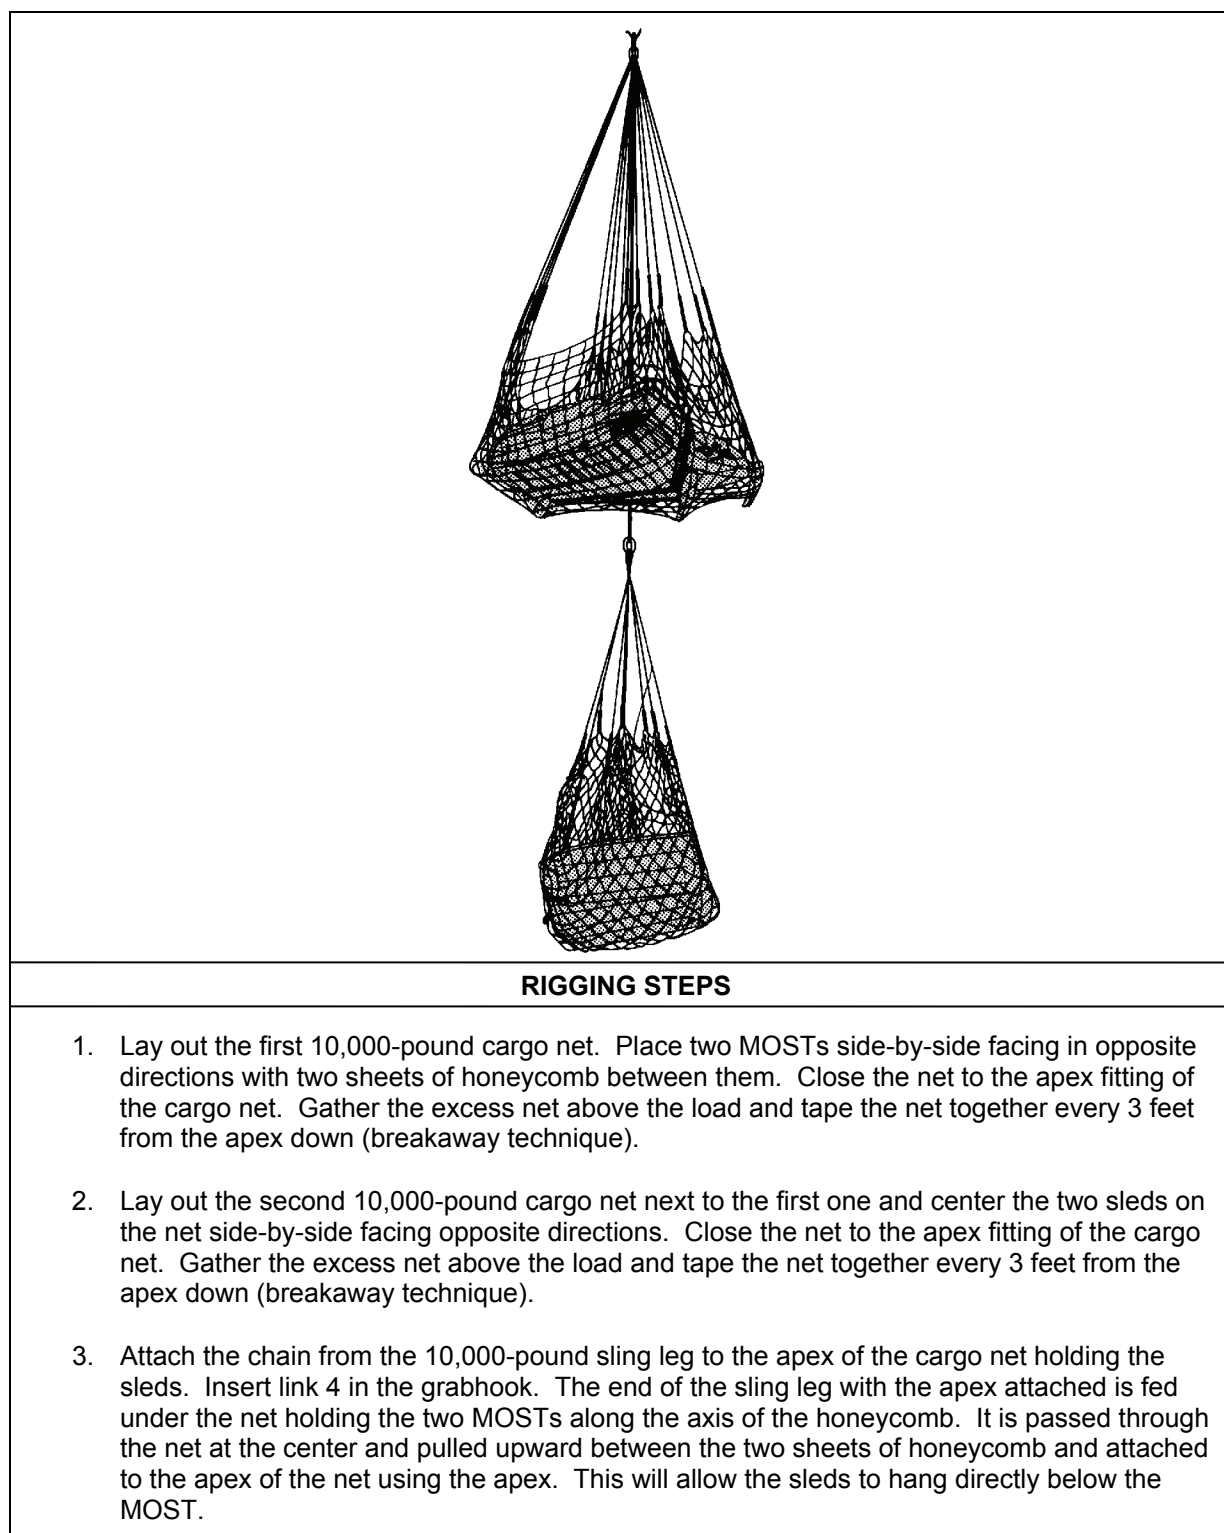

Figure 14-6. Two Mobile Oversnow Transport Snowmobiles with or without Two Sleds
- **Rigging.** Rig the load according to the steps in Figure 14-6.